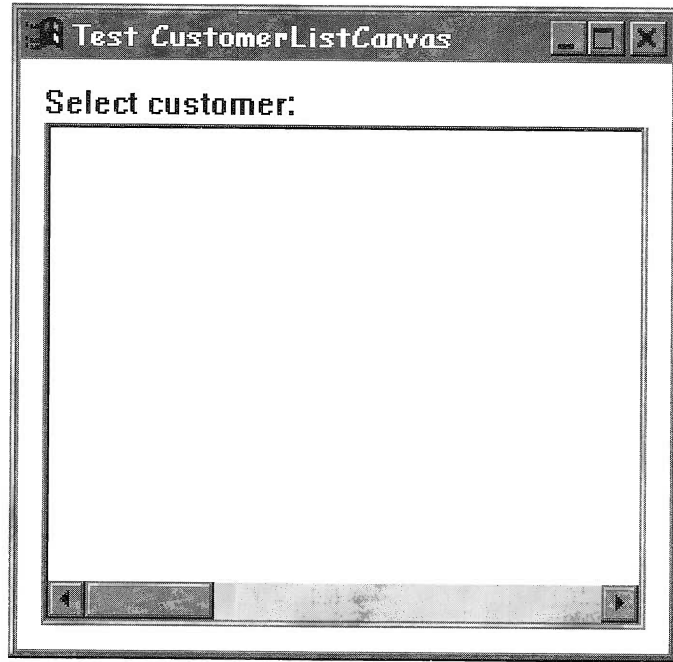

Figure 166: Running Testview2 testing application
- ☐ After the compile and link is finished, start the Testview2 application so you can see if it looks like Figure 166.